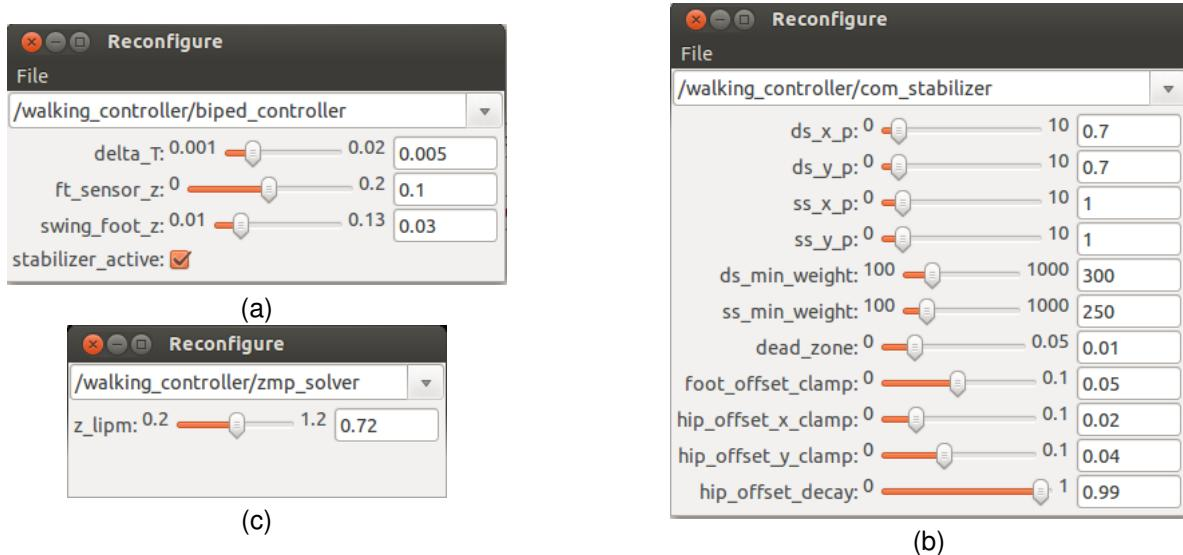

Figure 54: Walking controller parameters: biped\_controller (a), com\_stabilizer (b), zmp\_solver (c).
There are three groups of parameters, as shown in Figure 54, that allow to operator to modify the walking behaviour though `rqt_reconfigure`: `biped_controller`, `zmp_solver` and `com_stabilizer` parameters.
**Biped controller** The general parameters for walking specify the height of the swing leg and the status of the stabilizer (enabled or disabled), as shown in Figure 54(a)
**COM Stabilizer** This set of parameters allow to tune the walking controller stabilizer in order to add robustness to the walking gait. Figure 54(b)
**Solver** The walking controller uses the Linear Inverted Pendulum as a simplified model of the robot's dynamics. The only parameter of the model that can be modified by the user is the height of the pendulum (Figure 54(c)).